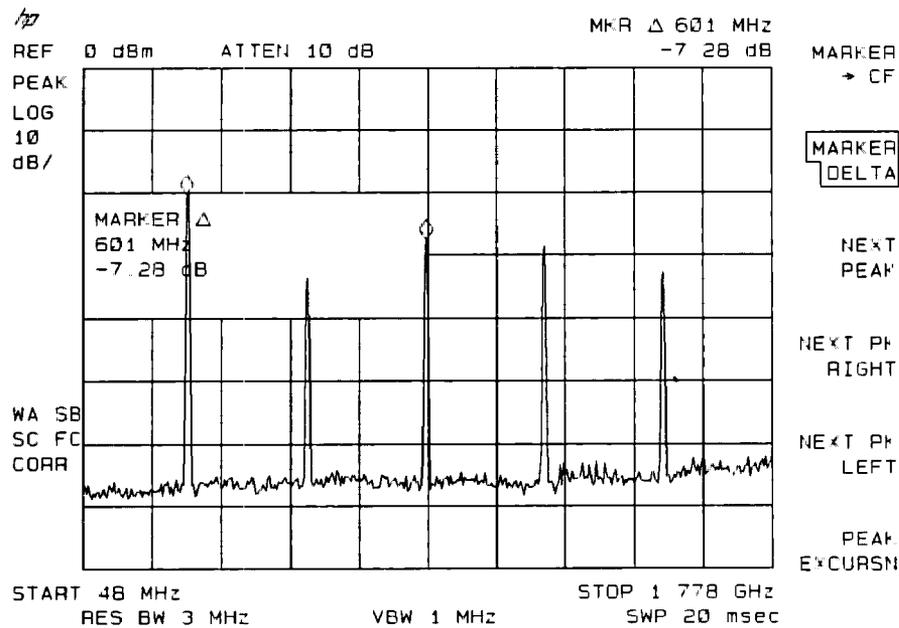

Figure 6-13. Using the Delta Meas Function
5. The **DELTA MEAS** softkey also finds and displays the frequency and amplitude difference between the two highest-amplitude signals. To use this automatic function, first remove the local oscillator (LO) signal from the display by pressing **(FREQUENCY)**, **START FREQ**, and turning the knob until the LO signal at 0 Hz is off the screen. Press **(MEAS/USER)**, **MORE 1 of 2**, **DELTA MEAS**. See Figure 6-13.